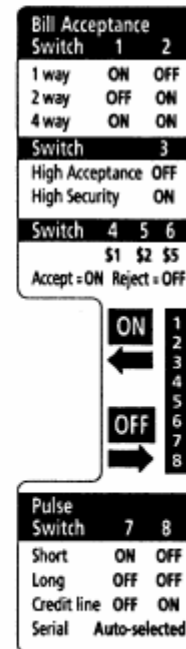

Figure 7 - Bill Acceptor DIP Switch Settings
- Check DIP switch settings. Defaults are 1,2,4 and 8 ON if not accepting \$5 bills, or 1,2,4,6, and 7 ON if accepting \$5 bills. Refer to Figure 7.